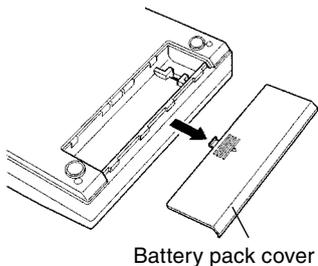

Figure 1
- ① Turn the printer over and open the battery cover as shown in Figure 1.